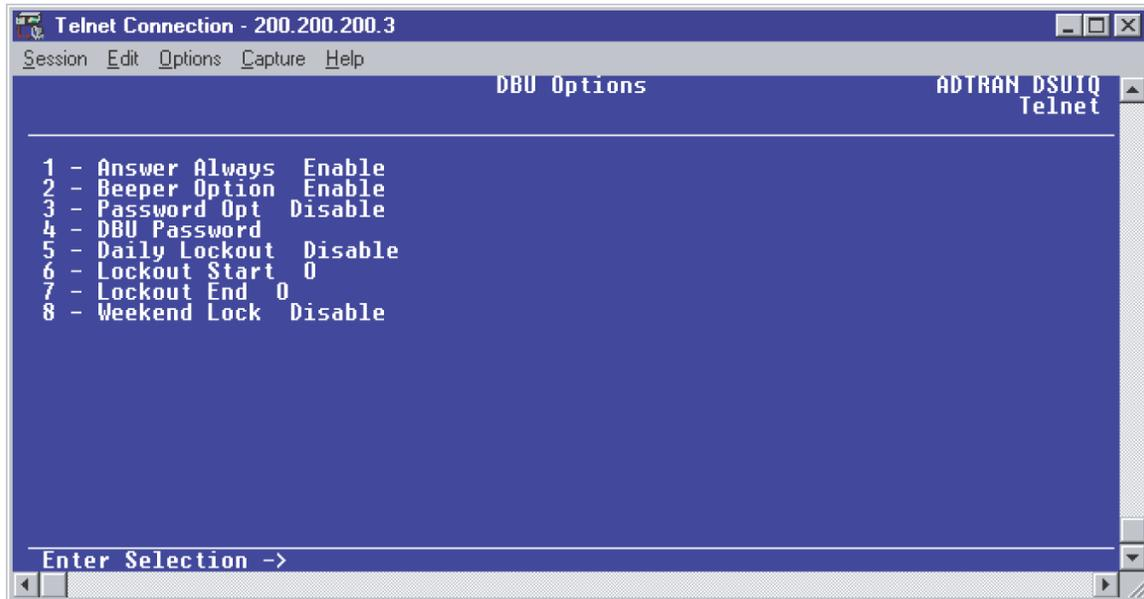

Figure 50. DBU Options Menu
1. From the **CONFIGURE DIAL BACKUP** screen, select option 2, **DBU OPTIONS**; then press **<ENTER>**. The screen similar to Figure 50 will appear. The default parameter values for this screen are shown.